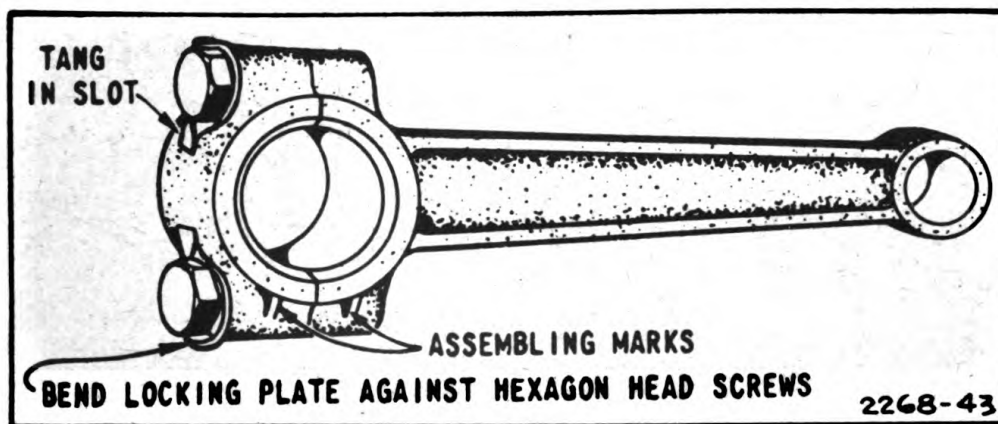

Figure 21.—Connecting rod
33. CONNECTING ROD.—*a.* The connecting rod is assembled to crankshaft with the marks on the cap and rod on the same side. These marks must also be toward the magneto side of the engine. Bend locking plates against hexagon head of cap screws (fig. 21).